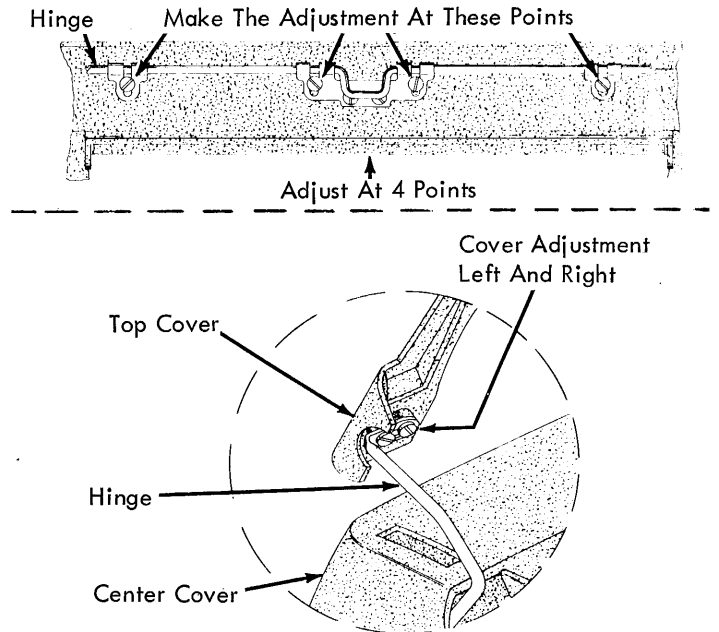

FIGURE 280. Top Cover Hinge
1. Top Cover Hinge - The hinge should be adjusted so that the contour of the top cover matches the contour of the center cover (Fig. 280).